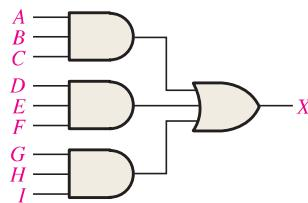

FIGURE 4–60
60. Write a VHDL program for the logic circuit in Figure 4–60.
66. The logic for segments *b* and *c* in Figure 4–53 produces LOW outputs to activate the segments. If a type of 7-segment display is used that requires a HIGH to activate a segment, modify the logic accordingly.